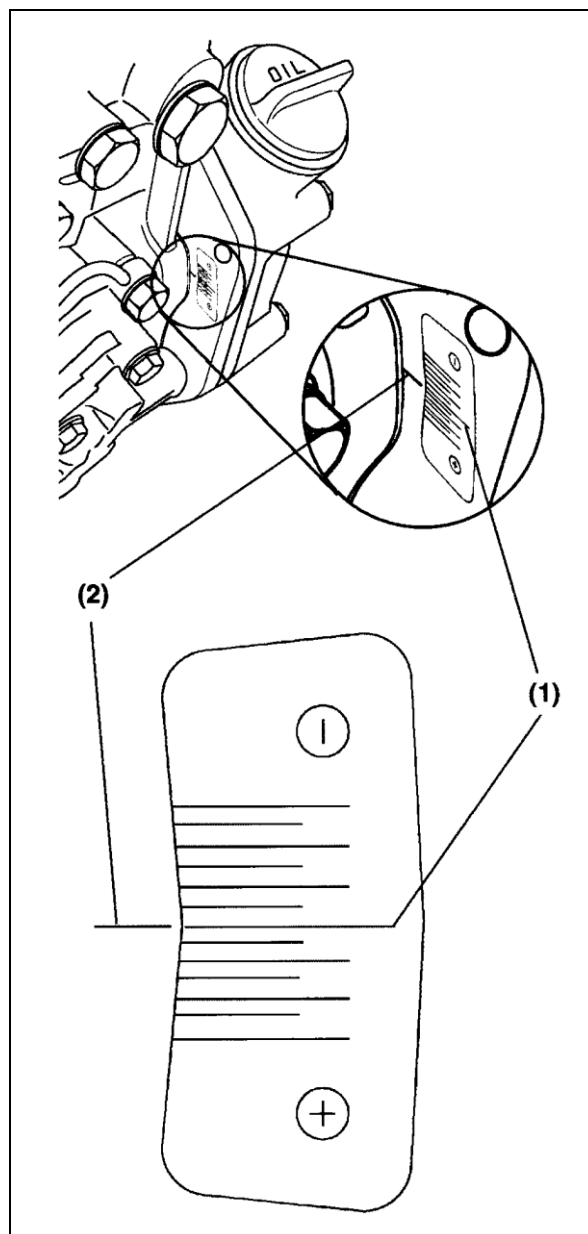

Figure 17
- Reinstall the timing grid sticker, provided with the new fuel injection pump, onto the back of the gear case / front plate (Figure 17). Align the "standard mark" (Figure 17, (1)) with the reference mark (Figure 17, (2)) made on the gear case during disassembly.